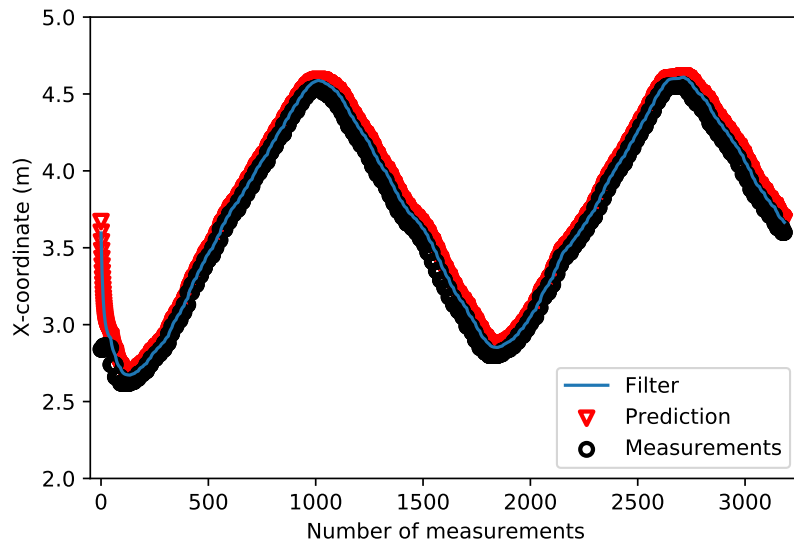
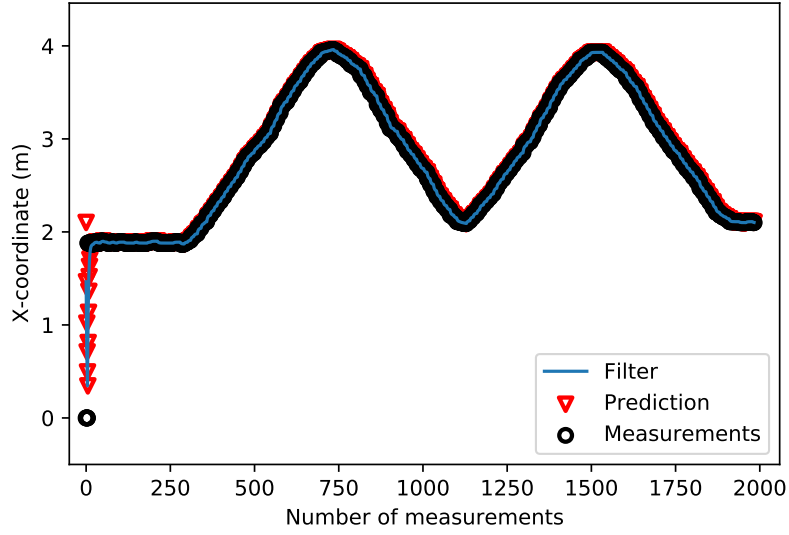

Figure 8: Plot when  $\text{sensor\_var} = 0.3 \times 2$  for partial round movement with hard-coded velocity
Figure 9: Plot when  $\text{sensor\_var} = 0.077 \times 2$  for perfect round movement with velocity acquired from rostopic `/velocity`
2. partial round movement with hard-coded velocity as shown in Figure 8 and perfect round movement with actual velocity from rostopic *velocity* as shown in Figure 9 and 10